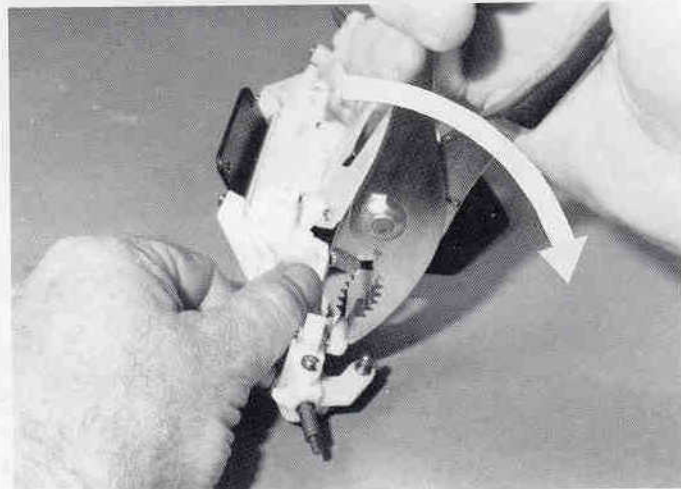

**Fig. 17**
**Fig. 17** In bag #6-14 is a molded tree with fourteen #6274 plastic ball ends; remove four of them. In bag #7-1 are two #7253 2.62" long turnbuckles. Thread the ball ends onto the turnbuckles to the dimensions below. The turnbuckles will screw on in different directions. **THESE DIMENSIONS ARE TO THE CENTER OF THE BALL CUP, NOT TO THE END OF EACH BALL CUP.** These upper suspension links are used to adjust front camber.